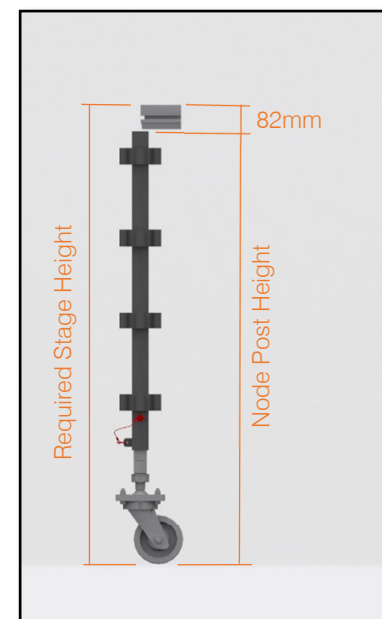

Fig. 15 – Measuring Node Post Height
9.1.2.1 Use a Tape Measure to initially set the height of all Node Posts. Subtract 82mm from the required height. Measure from the underside of the castor to the top of the Node Post. *Fig. 15 – Measuring Node Post Height*